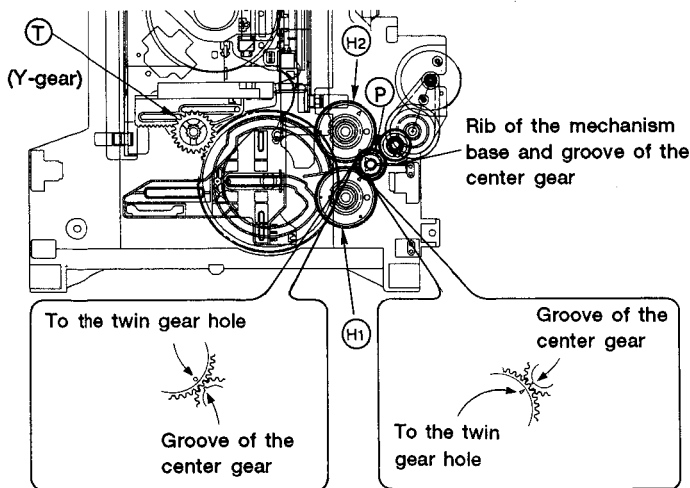

Fig. 1-11
- Attach the center gear ②, twin gears ④① and ④②, and Y-gear ③ in the positions indicated in Fig. 1-11.